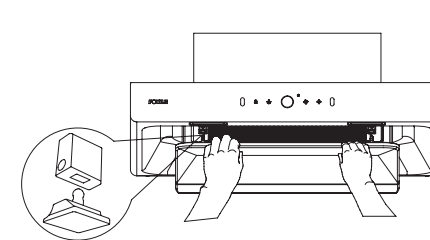
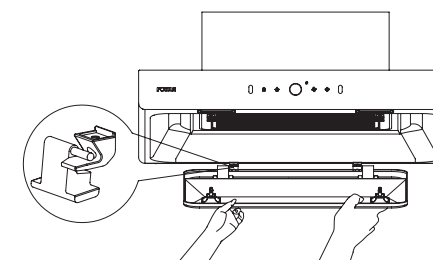
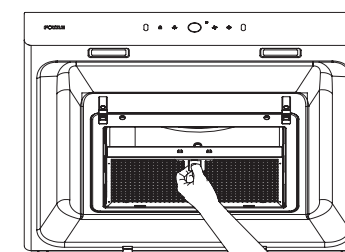
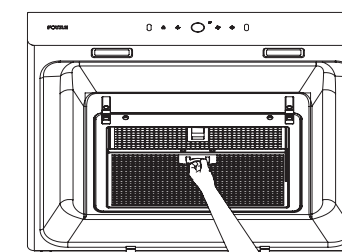

Fig.1
Fig.2
Fig.5
Fig.6
1. Grasp the front edge of wing plate with hands, pull it down to detach the locking tab of the wing plate (Fig. 1). Then flip it down at a certain angle, and remove the wing plate horizontally with hands finally (Fig. 2).
1. First remove the wing plate (see Fig. 1 and Fig. 2);
3. Detach the locking tab of the carbon filter, remove it, replace with a new carbon filter(see Fig.5), and then install the front filter(see Fig.6)and the wing plate(see Fig.2 and Fig.1);